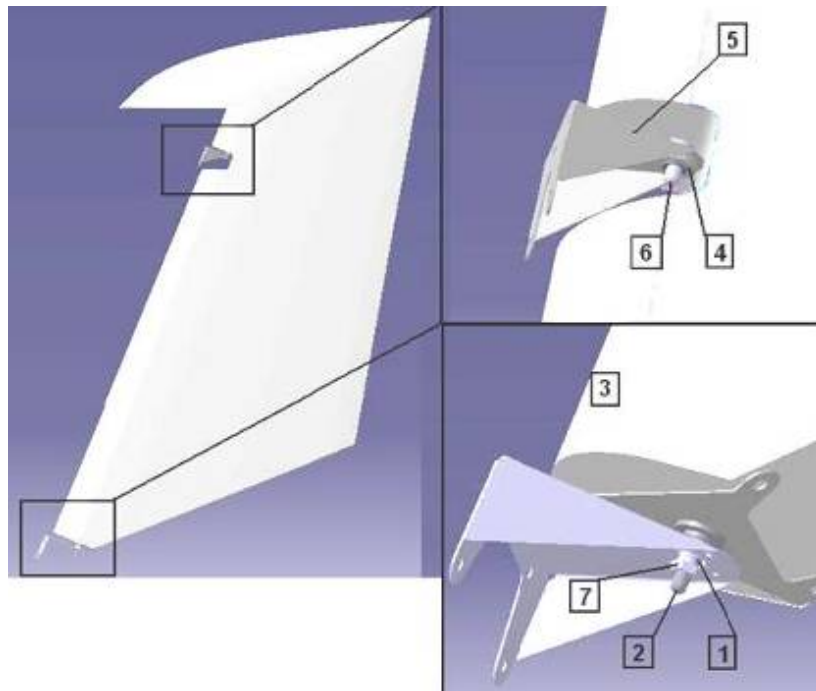

Fig. 55-40-3
2	Match the hole in the bearing of the bracket (1) with the pin (2) of the rudder lower support (3). Match the hole of the slider bearing (4) of the upper bracket (5) with the pin (6), (Fig. 55-40-3).
4	Turn the rudder by hand right up to the stop and set the self-locking nut M6 (7) onto the pin (2) (Fig. 55-40-3). Tighten the nut.